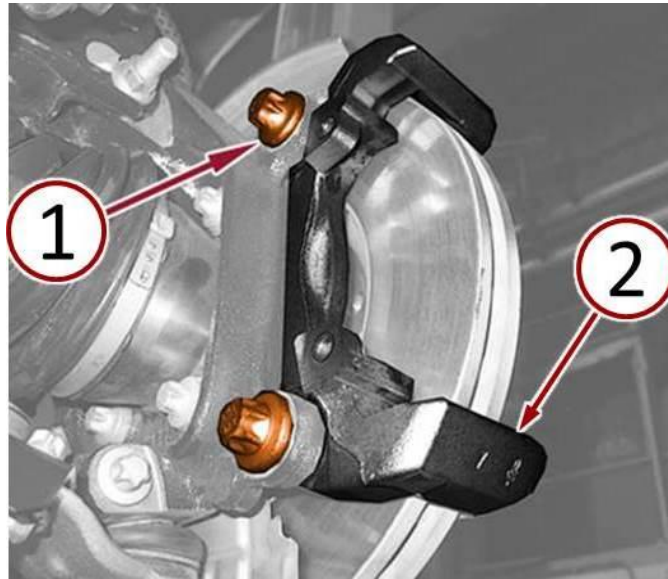

Fig. 8 Install Brake Caliper Adaptor Bracket
16. Install the brake caliper adaptor bracket (2) (Fig. 8).
17. Install the NEW brake caliper adaptor bolts (1) and tighten to 165 N·m (122 Ft. Lbs.) (Fig. 8).